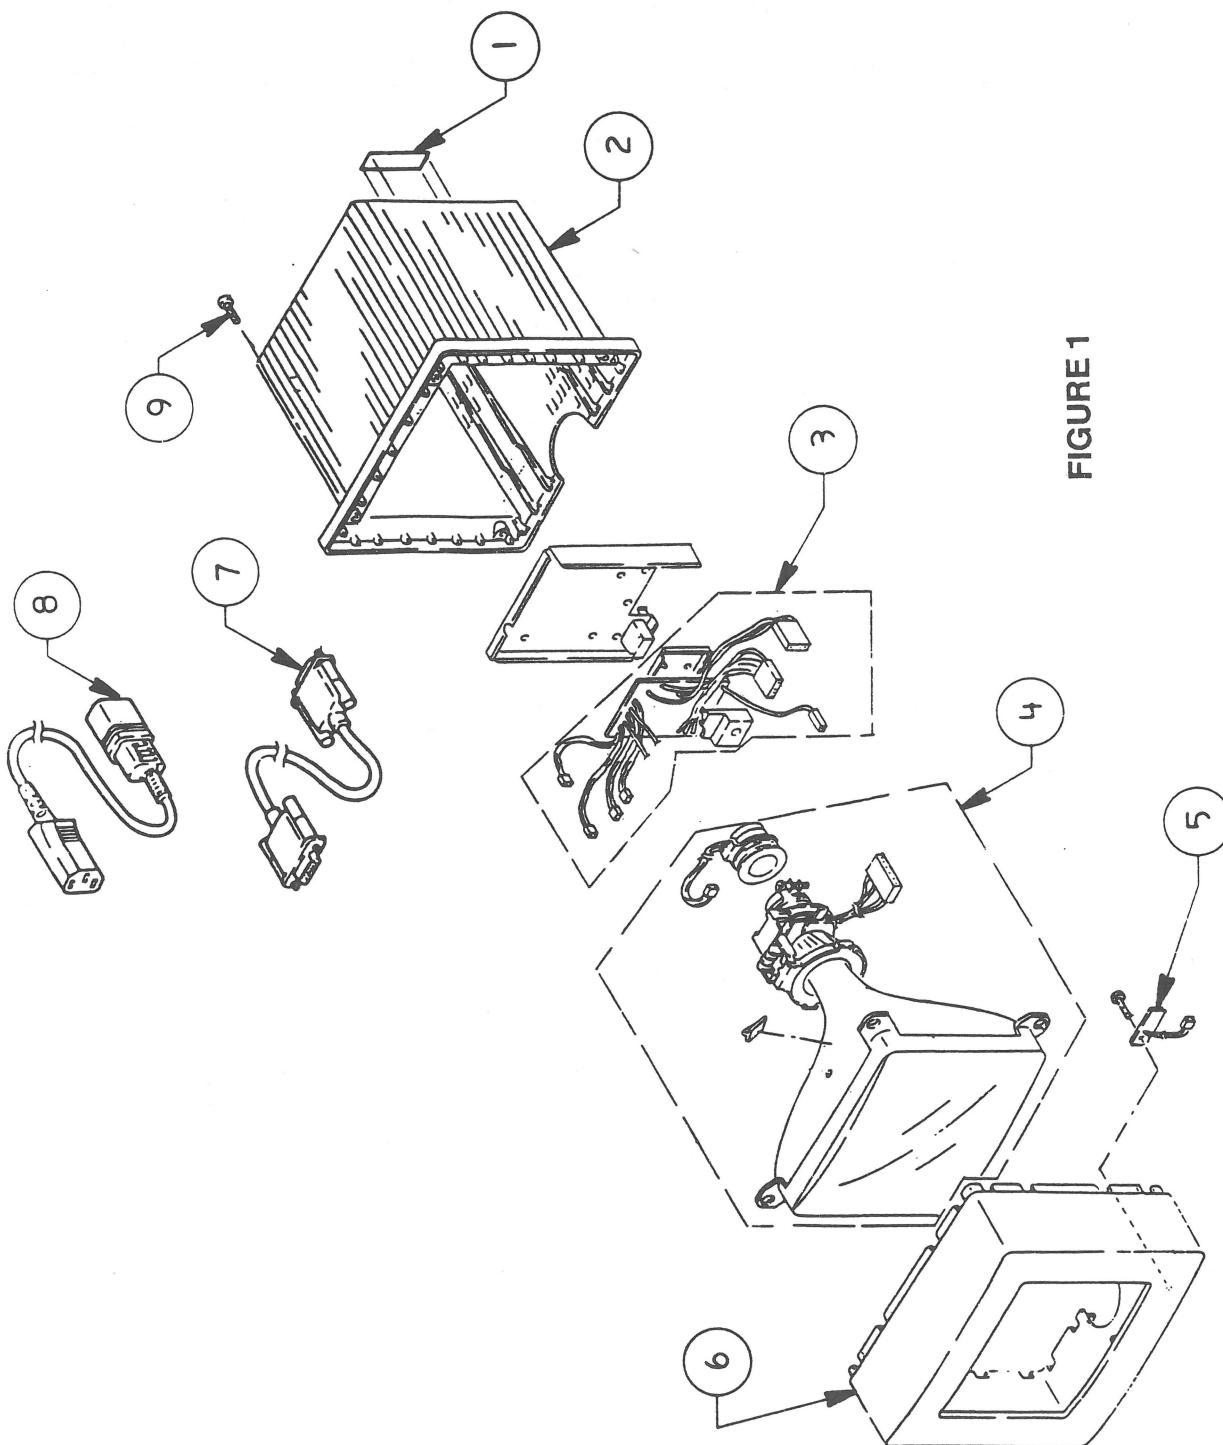

FIGURE 1
- IPL.3 CRT Assembly (Figure 1)
□ CRT ASSEMBLY (Figure 1)